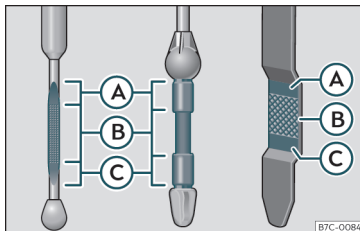

Fig. 248 Engine oil dipstick.
- Then pull it out once more and check the oil level >>> Fig. 248. Top up with engine oil if necessary.
If the oil level is above area >>> Fig. 248 **A**, do not start the engine. This could result in damage to the engine and catalytic converter. Contact a specialised workshop.
The oil level must never be above zone >>> Fig. 248 **A**. Otherwise oil can be drawn in through the crankcase breather and leak into the atmosphere via the exhaust system.